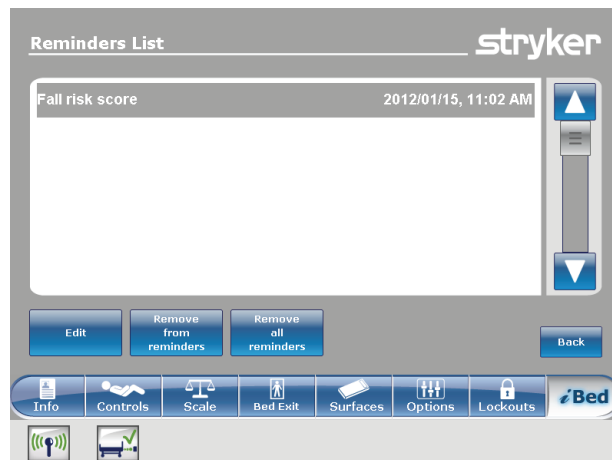

Figure 74: Reminders List
**View reminders list:** View a list of reminders and the values for the date, time, and reminder that was set (Figure 74 on page 86).
**Note:** The reminder is added to the **Reminders List** (Figure 74 on page 86).
The **Reminders List** screen lists reminders and the values for the date, time, and reminder that was set (Figure 74 on page 86).
To edit a time interval for a reminder, tap **Edit** (Figure 74 on page 86).
To remove the highlighted reminder from the reminders list, tap **Remove from reminders** (Figure 74 on page 86).
To remove all reminders from the reminders list, tap **Remove all reminders** (Figure 74 on page 86).
To return to the **Reminder** screen, tap **Back** (Figure 74 on page 86).